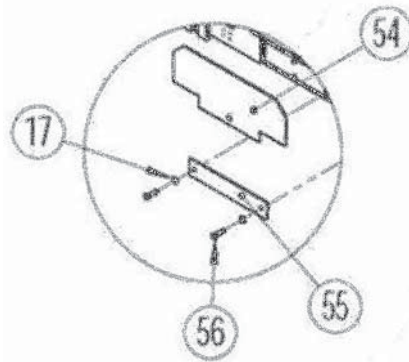

Fig. 10
26. Install Cover Plates (#55) to each end of Runways. Also insert Wheel Stops (#54) at front of Lift, as shown below in Fig.10.